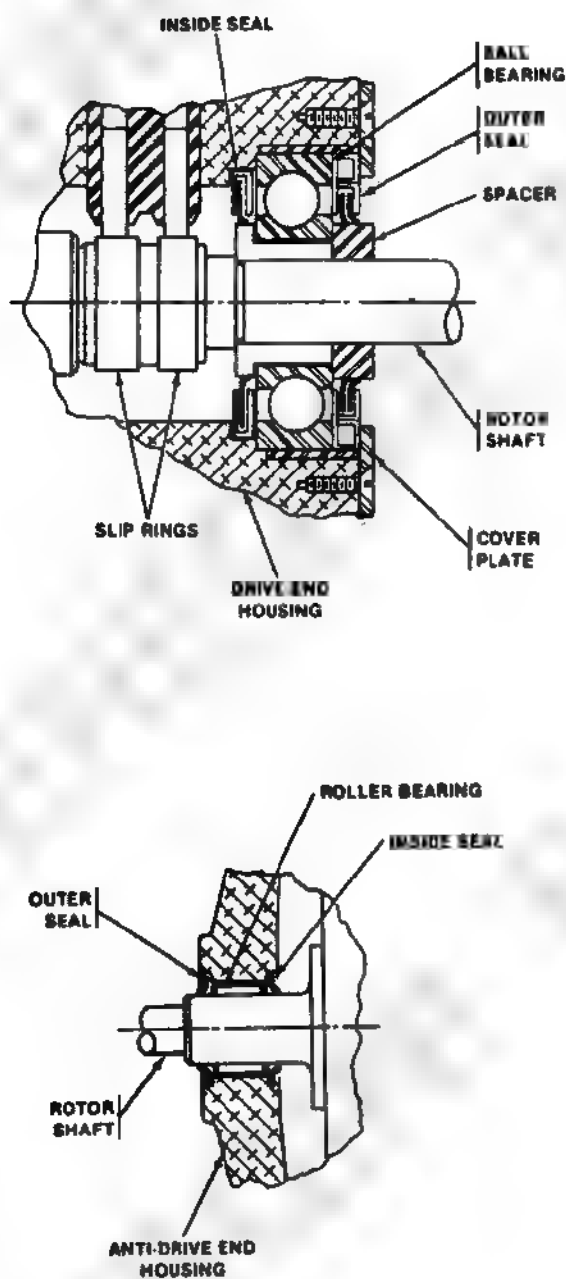

Figure 3-8. Proper Seal Lip Positions.
(b) Place inside seal (22) in position on seal bore with seal lips flaring up . See figure 3-8 for proper seal lip position.
While applying grease, use finger to form the seal lips of inside seal as shown in **figure 3-8**.
(a) Apply a thin film of grease (item 4, App B) to lips of outer seal (24). Place seal in position on seal bore of drive end housing assembly (21) with seal lips flaring up. See figure 3-8 for proper seal lip position
(c) Apply thin film of grease (item 4, App B) to lips of inside seal (10). Place seal in position on the seal bore of anti-drive end housing (9) with seal lips flaring inward, toward rotor (14). See figure 3-8 for proper seal lip position
(f) Apply thin film of grease (item 4, **App B**) to lips of outer seal (11). Place outer seal in position on the seal bore of anti-drive end housing (9) with seal lips flaring outward, away from rotor (14). See **figure 3-8** for proper seal lip position.